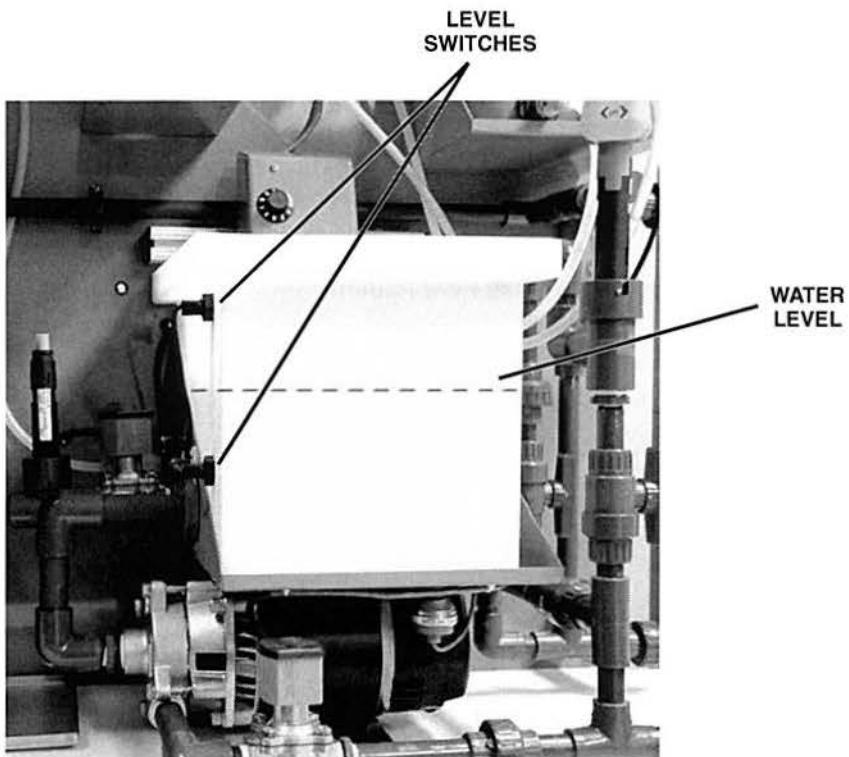

Figure 7. Water Level Between High-Level and Low-Level Switches
- 1. Make sure the reactor tank is filled with water to a level about mid-way between the low-level and high-level switches, shown in figure 7.